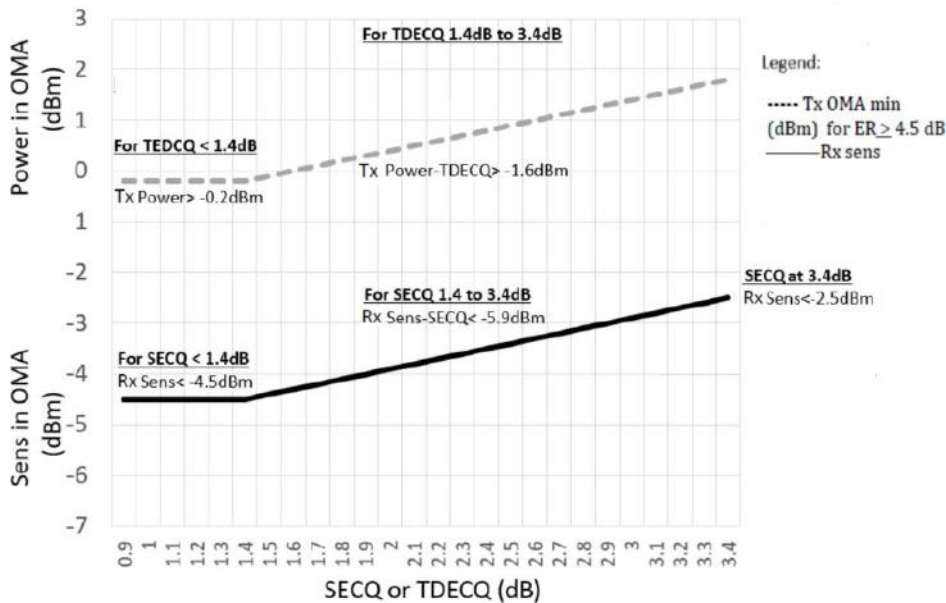

Figure 4. Illustration of Receiver Sensitivity Mask for 400G-DR4+
6. Receiver sensitivity (OMAouter) is informative and is defined for a transmitter with a value of SECQ up to 3.4dB. Receiver sensitivity should meet Equation (1), which is illustrated in Figure 4.